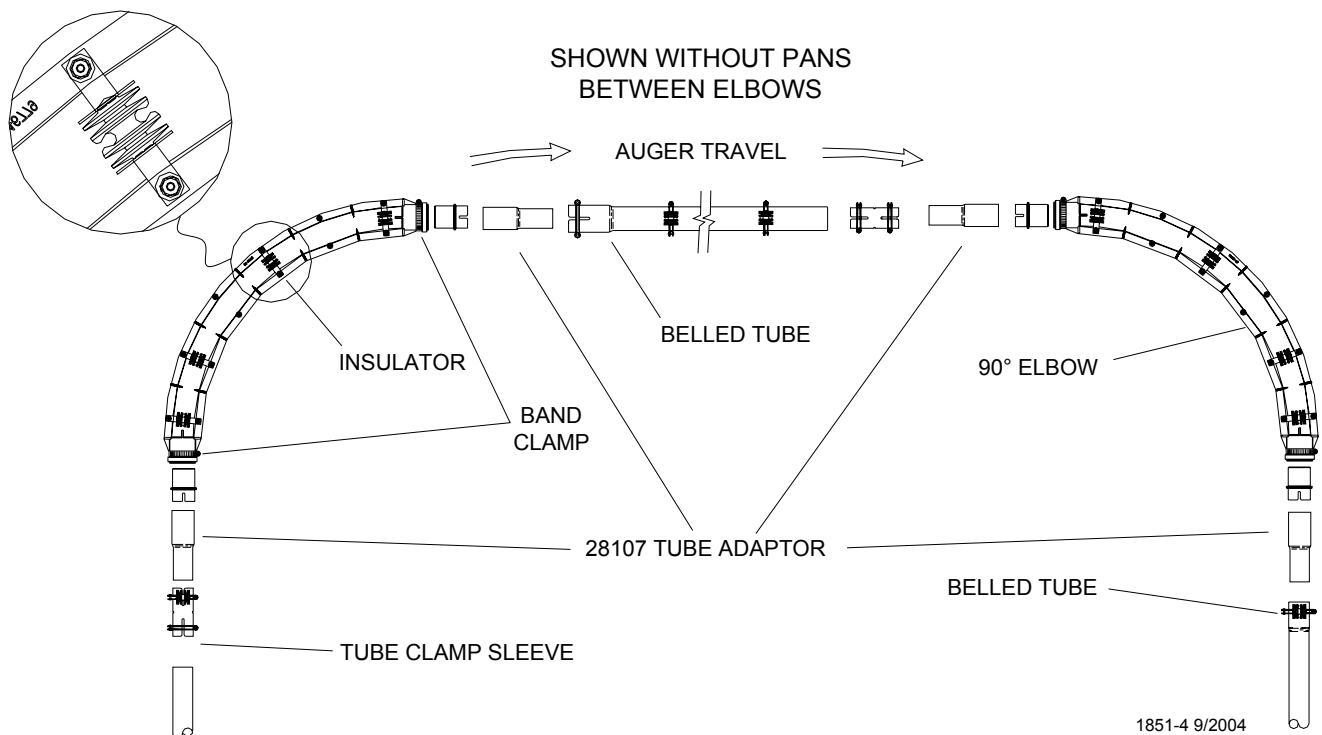

Figure 30. Install Insulators approximately as shown.
- Assemble the elbows and related components as shown in **Figure 30**. Temporarily support the elbows until the suspension system is installed.